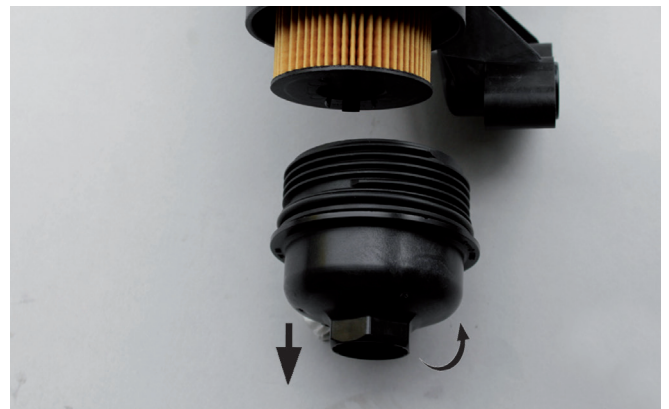

Figure 4
- Only unscrew the cover after the oil filter housing is fully emptied (Figure 4).